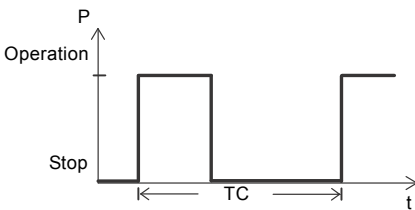

Fig. 5 S3 operation
S3 operation is a series of 10-minute duty cycles (TC). Each cycle has a 4-minute period of constant load followed by a 6-minute period of rest. Thermal equilibrium is not reached during the cycle. See fig. 5.